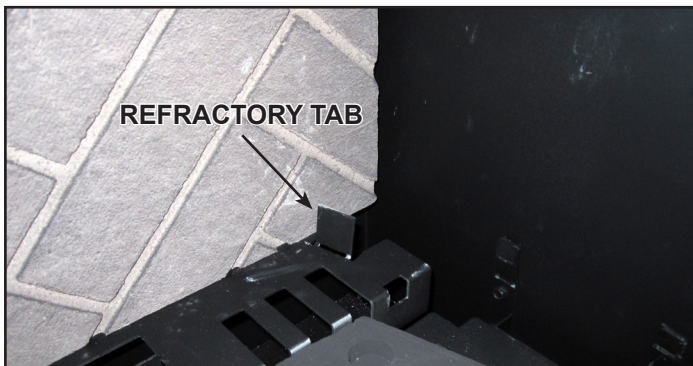

Figure 10.5 - Place Right Side Refractory
2. Place right side panel by inserting the front (tall edge) into the front firebox corner and then press the narrow end up to the refractory tab. See Figure 10.5.